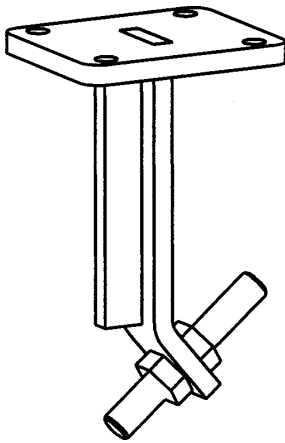

Figure 3. Broom Limit Bracket with Rod and Nuts Assembled
3. Assemble one Threaded Rod (Item 2, Figure 1) and two 3/18-16 Nuts (Item 4, Figure 1) to Broom Stop WMT as shown in Figure 3. Do not fully tighten nuts.